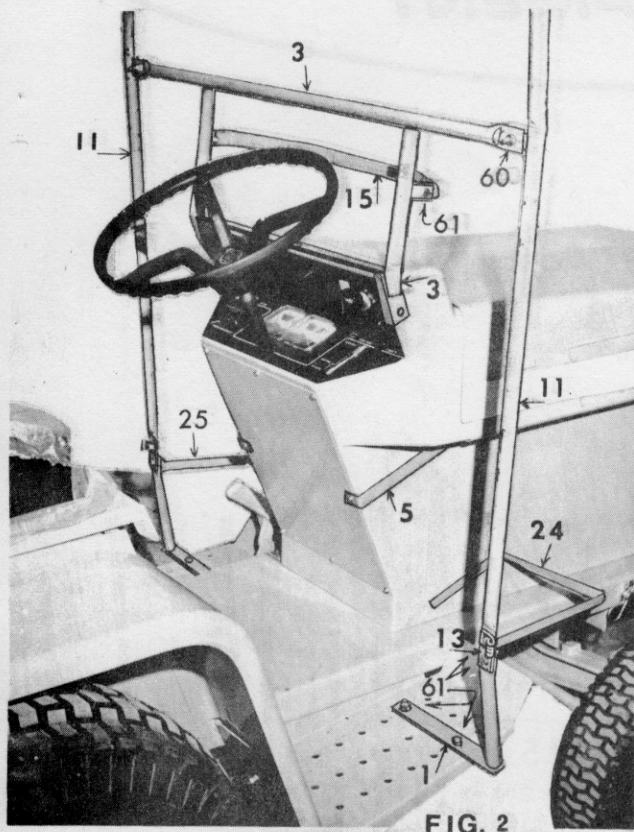
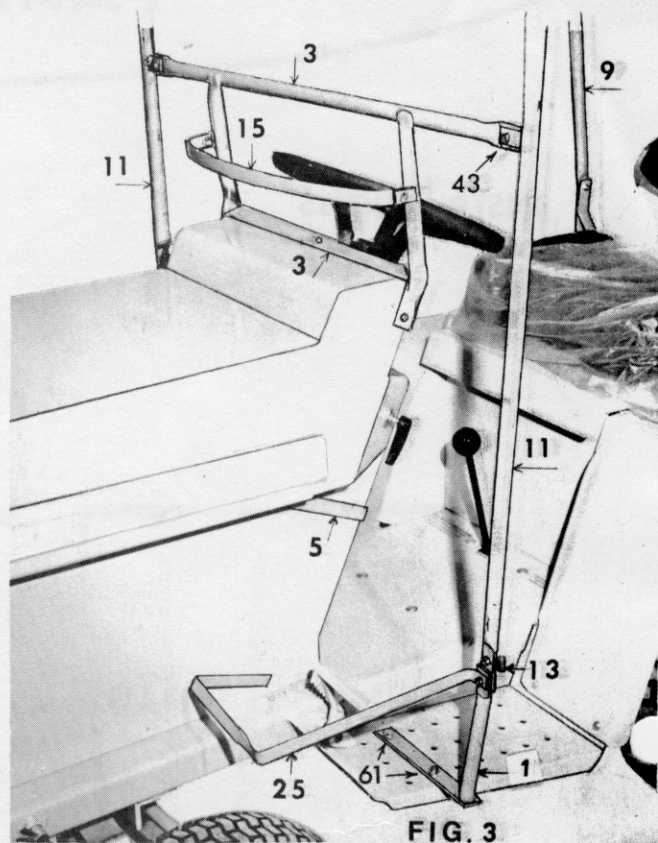

FIG. 2
FIG. 3
STEP 2: SEE FIGS. 2 & 3:
- A. Attach FEET (1) to second set of holes from front of tractor foot rest (as shown in FIG. 2), using 5/16" x 3/4" bolts. Vertical part leans slightly toward rear of tractor.
- B. Use "C" clamps to temporarily fasten FRONT PANEL FRAME (3) to the instrument cowling.
- C. Insert a 1/4" x 1" bolt, from front toward rear, through clip welded to FRONT CORNER POSTS (11) and then through the outer ends of FRONT PANEL FRAME (3). Tighten enough to hold POSTS (11) in upright position.
- D. SEE FIG. 3: Insert a 1/4" x 1" bolt, towards front of tractor, through bottom hole of FRONT CORNER POST (11), then through upper part of FOOT (1), then through FOOT POCKET GUARD (25). Add a nut and tighten.
- E. SEE FIG. 2: Insert a 1/4" x 3/4" bolt through HINGE (13), then through second hole from bottom end of FRONT CORNER POST (11). Add nut and tighten. REPEAT FOR LEFT HAND SIDE, FIG. 3.
- F. Bolt VINYL HOLDER (5) to each side of tractor cowling, using tractor bolts.
STEP 5: SEE FIGS. 2, 3, & 17:
- A. Insert the doors into bottom DOOR HINGE (13), add another HINGE (13) to top corner of doors, and bolt to FRONT CORNER POSTS (leave upper hinge bolts loose for now). Latch the doors to REAR CORNER POSTS (9 & 10). Loosen "C" clamps holding FRONT PANEL FRAME (3) so it will (fit tractor naturally". Mark tractor cowling for the drilling of three (3) 9/32" holes, and bolt FRONT PANEL FRAME (3) to tractor cowling. REMOVE DOORS.